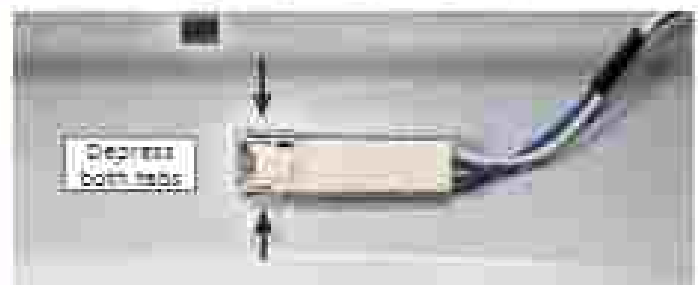

Figure 4 - Remove door switch.
9. Locate the door switch on the backside of the front panel just above the door opening. Depress both tabs and push switch through the opening. (See Figure 4.)